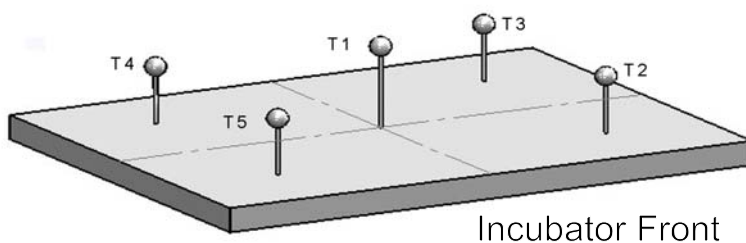

Figure 10: Temperature Sensor Positions
In the Test Reports generated by the test software, the temperatures are referred to as T_a (1) for the center of the incubator, and T_b (2), T_c (3), T_d (4) and T_e (5) for each of the quadrants as shown in **Figure 10**.